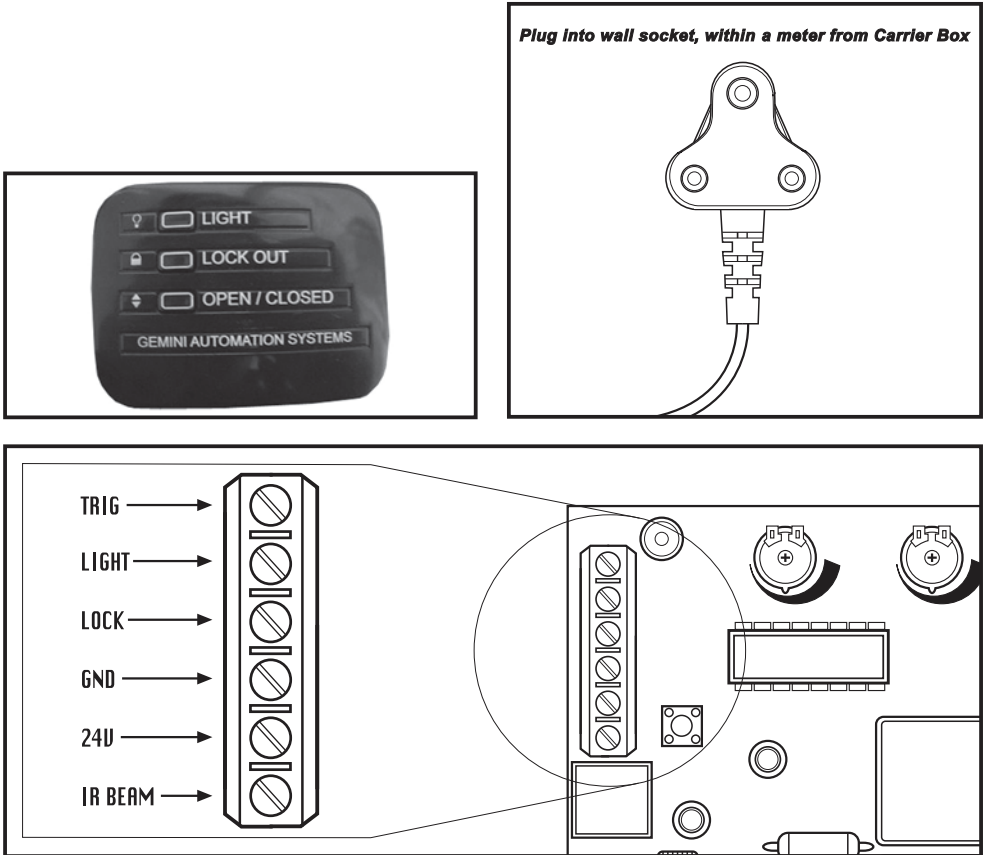

Figure 11
2. Connect two wires to the connections marked (1) TRIGGER and (2) COMMON. Note and record colour and connecting positions of each of the wires.
4. Connect the wires that the wire to the corresponding connector block terminals as indicated in Figure 11. Ensure that the wire positions correspond with those on the push – button.